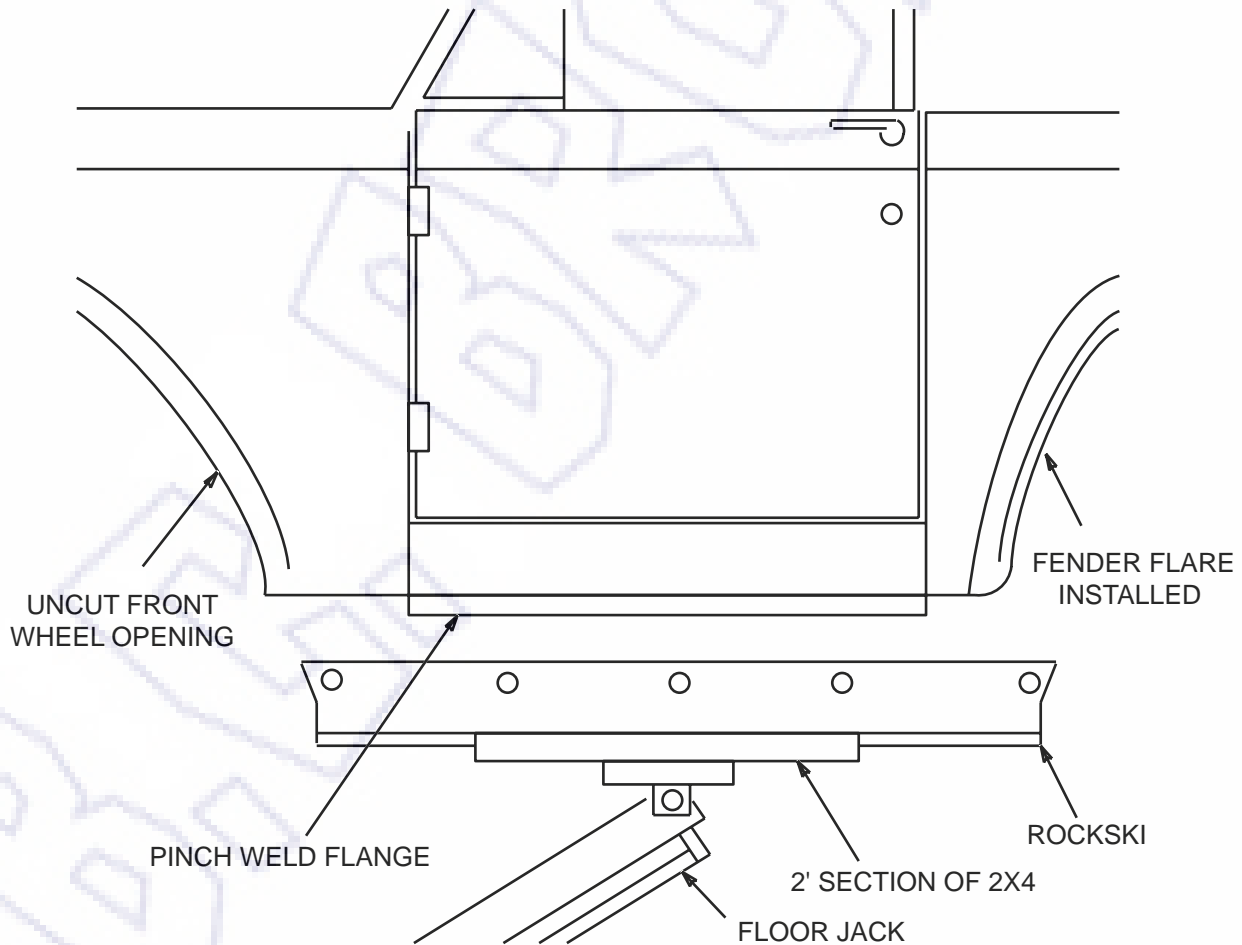

Figure 1
1. Make sure that the pinch weld flange at the bottom of the rocker panel is straight. (See figure 1)
2. Position the 2 X 4 on the wide flat area at the bottom of the Rockski. Position the jack under the 2 X 4 to hold the Rockski in position as shown in Figure 1.